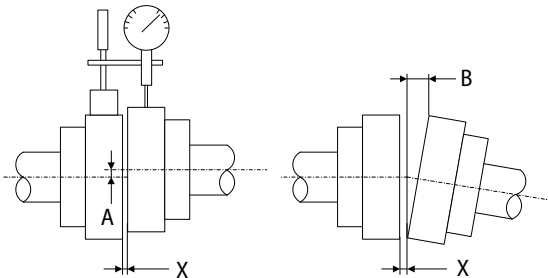

Fig. 8
- The dimensions (A,B and X) illustrated in Fig. 8 must be within the tolerance listed in Table 13.
- Shrink fit or shaft-end thread is recommended for mounting (Fig. 8).